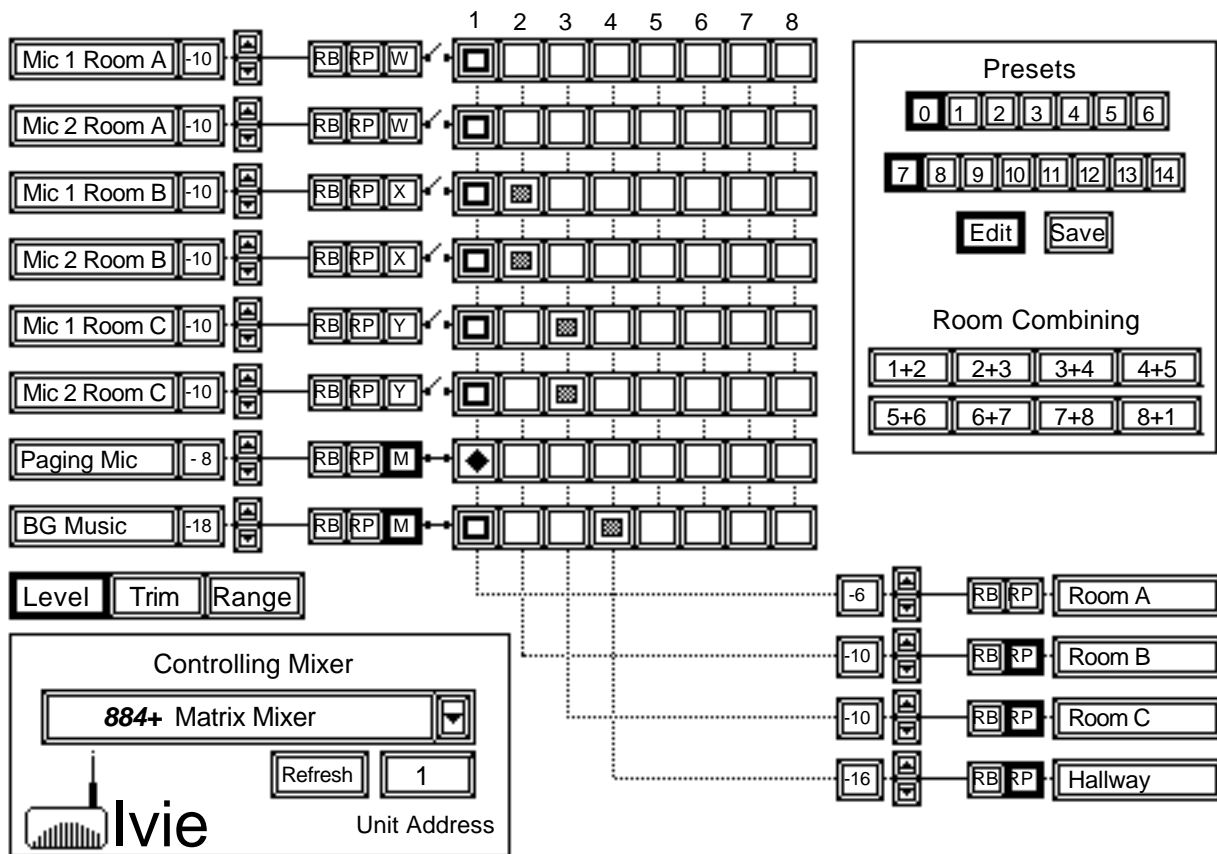

Figure 42
These considerations are covered in detail in Figure 42 on the following page where Preset 7 programming is shown (Page Room A from the Front Desk):
3. Assign (Definitely On) the front desk Paging Microphone to Room A using the appropriate Mix Bus Assign Button (the red diamond on the Mix Bus Assign Button shown in Figure 42 above demonstrates that this has been done).
4. Turn off every other input that could possibly feed Room A (the red rectangles on Mix Bus Assign Buttons shown in Figure 42 above demonstrate that this has been done).
5. Turn off (disable) the remote control for Room A (notice the RB button for Room A output is no longer depressed. Clicking on this RB Button releases it. While the graphic in Figure 42 shows the button released, it cannot show that the button would be red in color. On the ANSW+ software screen, it *would* be red to indicate it had been changed as part of the preset.
6. Using the up/down level buttons, adjust the page level coming into Room A. (Notice that the Room A output level has been turned up from -10dB to -6dB in Figure 42 on the preceding page.) (Again, the changed level would be red in color.)